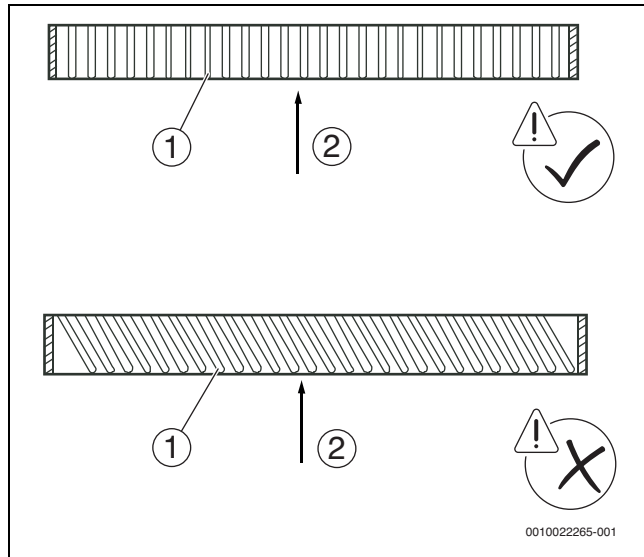

Fig. 9
- Make sure the air inlet grilles are angled such that they are parallel to the direction of the air inlet. There should be no angle between the air inlet grille and the direction of the air inlet, otherwise the noise level will increase (→ figure 9).